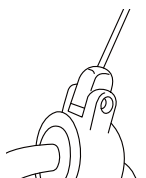

Fig. 2
- Place the hose clamp around the outside of the secured hose sleeve, ensuring that the top part of the clamp is facing up and in the direction of the reel (fig. 2).